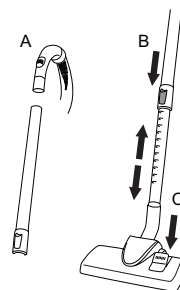

Figure 3A & B
2. Slide the telescopic tubes onto the hose handle, see Figure 3A.